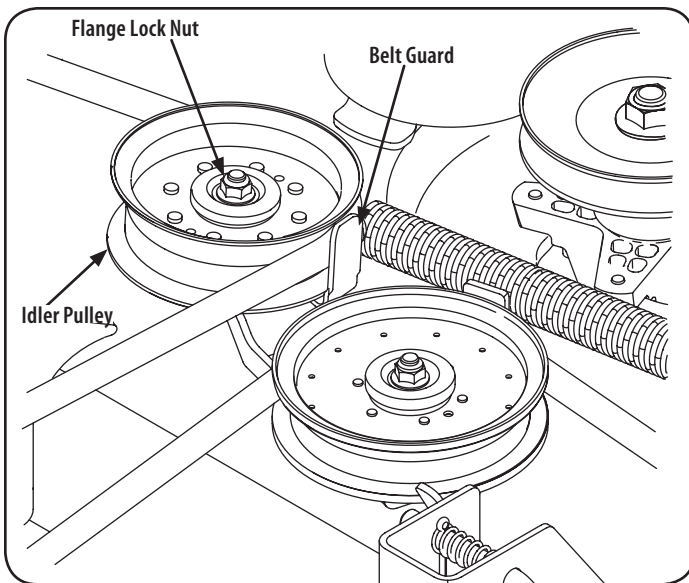

Figure 37
3. Loosen, but do not remove, the movable idler pulley and belt guard by only loosening the flange lock nut securing the idler pulley to the idler arm. See Figure 37.
6. Place the belt around the idler pulleys removed in step 3 with the "V" side facing in. Once in place, reinstall all the hardware and tighten the flange lock nut to secure the assembly. See Figure 37.
7. Route the belt as shown in Figure 37 and then reinstall the deck (refer to Deck Installation).